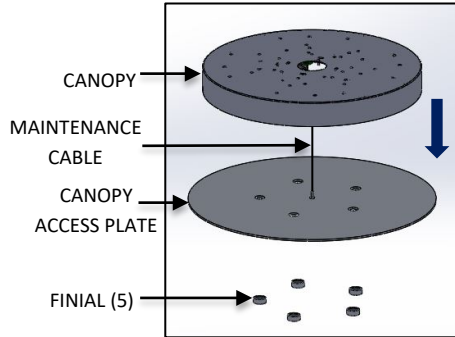

FIG. 5 – CANOPY ACCESS PLATE DIS-ASSEMBLY
1. Dis-assemble the FINIAL (5) and leave the canopy access plate supported by the maintenance cable attached to the CANOPY ASSEMBLY and feed the building supply wire into the hole in the CANOPY as it is raised up to the ceiling as shown in below FIG. 5.